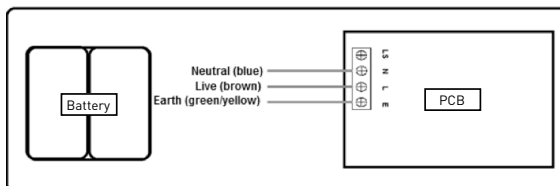

Fig 2
- For non-maintained operation, carefully wire as shown in Fig 2